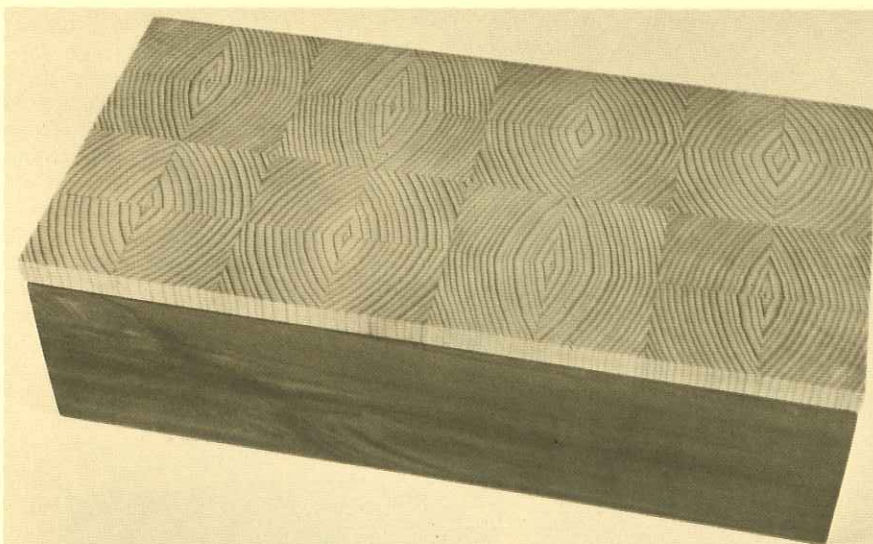
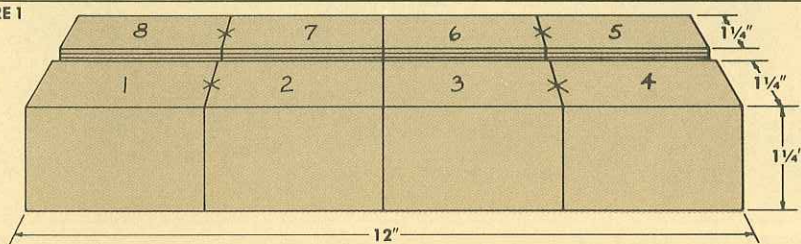

FIGURE 1
FIGURE 2
**MORTISES IN LEGS.** First cut a  $\frac{1}{4}$ "-deep notch in both the front and back legs to accept the side rail, see Fig. 1. Then, inside this notch, through mortises are laid out, drilled, and cut square. Finally, cut stopped mortises near the bottom of the legs for the stretchers, Fig. 2.
mortise are shown in Figures 1 through 6 below. Though I'm sure there are purists who would insist that the mortise be chopped out with mortising chisels, let's face it, mortising chisels are expensive and the whole process of chopping mortises by hand is very time consuming.
**STEP 2.** Set the rip fence exactly 1 1/4" from the inside of the blade, and rip off two pieces 1 1/4" wide as shown in Fig. 1. Then turn each piece on edge and make a second cut so it's 1 1/4" thick. Now mark off 3 1/8" lengths on each piece and number each section to keep them in order.
**STEP 3.** Cut four 3"-long sections from each piece (yielding eight sections in all). These sections are 'opened' as shown in Fig. 2 to produce 'book matched' pairs.
Whenever we have to cut a whole bunch of small pieces to the same length, we use the set-up shown in Fig. 1. There is a rule when using a table saw that you should never use the miter gauge and rip fence at the same time.
The set-up shown in Fig. 2 shows this operation. However, since we were cutting a rabbet on the end of very small pieces, we added an extension fence to the miter gauge to support the piece all the way to the blade.
Although a stop block (or end block) can be used on a table saw for setting the length for cutting off small pieces, this is not a good practice on a radial arm saw. As shown in Fig. 1, we use only a pencil line on the fence to gauge the length of the cut-off.
We use the holding fixture shown in Fig. 2. A small notch is cut out of one corner of a piece of scrap that matches the size of the workpiece. The workpiece is placed in the fixture and pushed against a stop block. This procedure keeps your fingers well away from the blade, yet allows complete control during the cut.